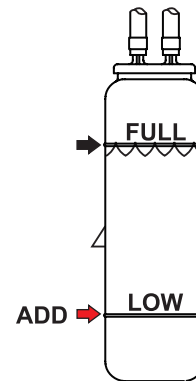

Figure 36. Coolant Reserve Tank
- Verify that the coolant level in the coolant reserve tank is between the **FULL** and **LOW** markings as shown in Figure 36.